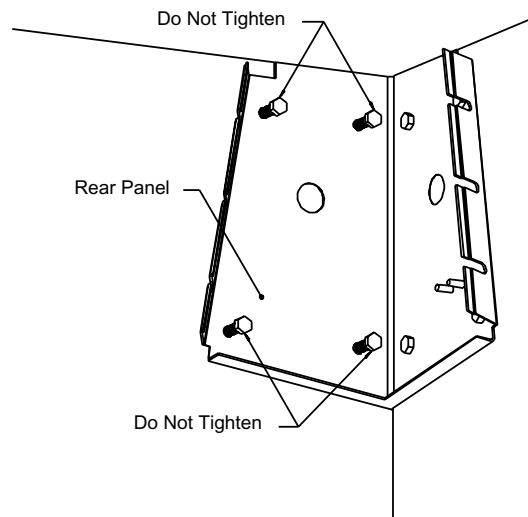

**Figure 6: Knockouts**
4. Decide how wiring will be routed into the housing. If needed, remove the appropriate knockout (PG21 - 1 in). **See Figure 6.**